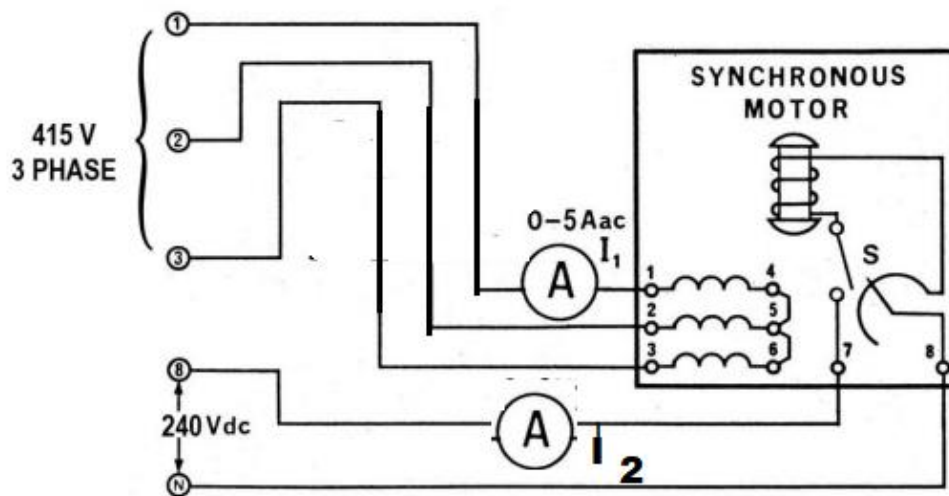

Figure 4.1: Connection diagram for observing the starting characteristic of synchronous motor
4. Using your Three-Phase Synchronous Motor/Generator, Power Supply and AC Ammeter, connect the circuit shown in Figure 4.1. Note that the three stator windings are wye-connected to the fixed 415 V, 3-phase output of the power supply, terminals 1, 2 and 3.